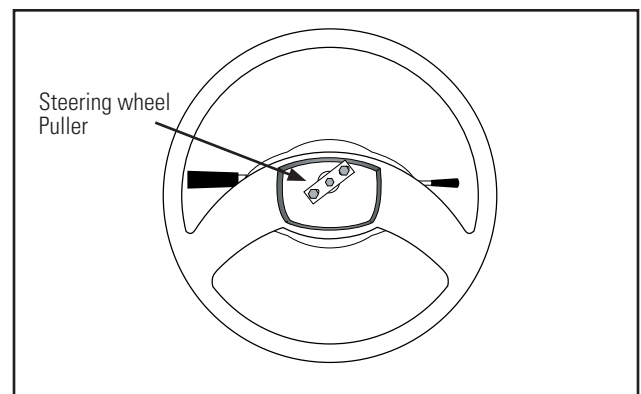

FIGURE 1
2. Using a 1.25" socket & wheel puller, remove the steering wheel. See Figure 1.